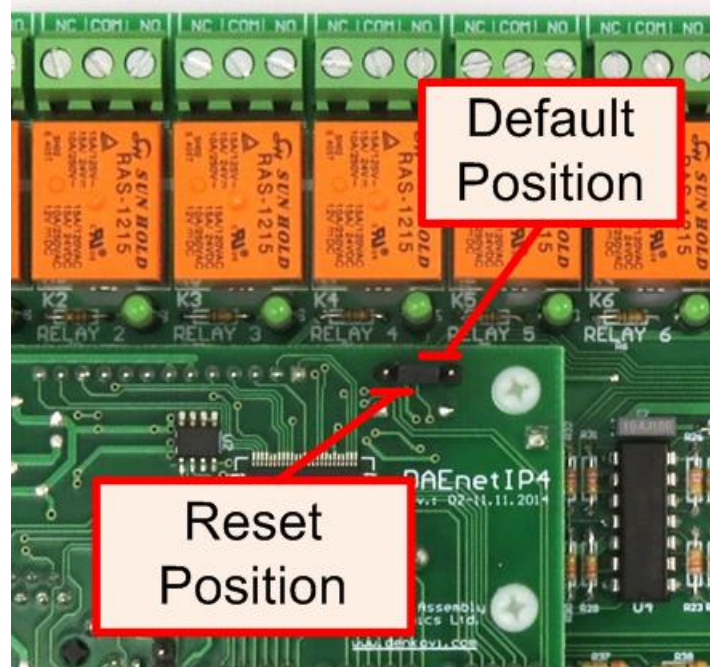

Figure 21. System port JP5
- Move the jumper to **Reset Position** (Figure 21), wait 10 seconds and then get it back to it's old position. This option is most suitable when the controller is embedded in larger system and the JP5 jumper must be extended with buttons or switches.